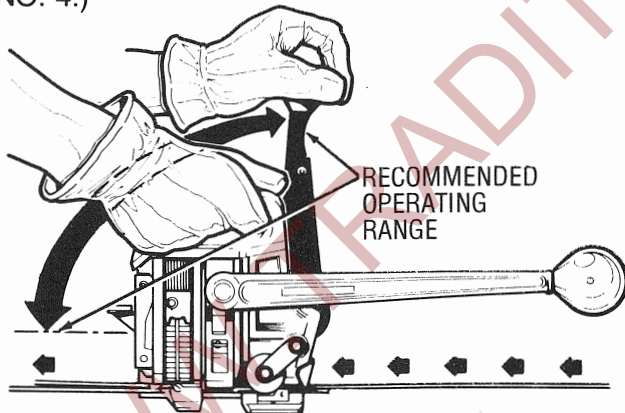

FIGURE NO. 4
4. Hold tool by the TOP HANDLE (KEY #1), move TENSION CONTROL HANDLE (KEY #5) toward operator to lower FEEDWHEEL (KEY #26). Continue pulling TENSION CONTROL HANDLE (KEY #5) to the rear to apply tension onto strap. Return TENSION CONTROL HANDLE (KEY #5) forward and repeat the action until the TENSION CONTROL HANDLE (KEY #5) deflects and is stopped from further movement. This indicates that the factory pre-set tension has been reached. (SEE FIGURE NO. 4.)
DO NOT ROTATE THE TENSION CONTROL HANDLE TOO FAR FORWARD AS A SUDDEN RELEASE OF TENSION COULD OCCUR. FIGURE NO. 4 SHOWS TENSION CONTROL HANDLE IN ITS RECOMMENDED FURTHEST FORWARD POSITION.